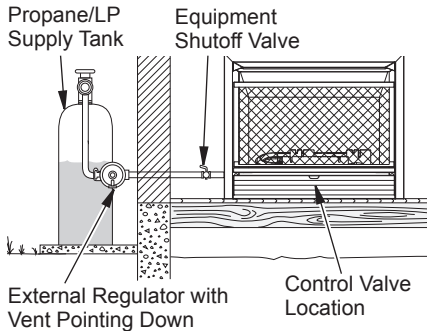

Figure 16 - Checking Gas Joints for Propane/LP Gas
3. Check all joints from gas meter to equipment shutoff valve for natural gas or propane/LP supply to equipment shutoff valve for propane/LP (see Figure 16 or 17). Apply a noncorrosive leak detection fluid to all joints. Bubbles forming show a leak.
4. Check all joints from equipment shutoff valve to control valve (see Figure 16 or 17, page 16). Apply a noncorrosive leak detection fluid to all joints. Bubbles forming show a leak.